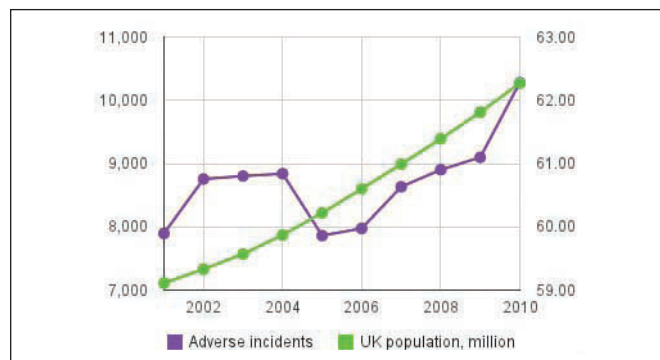

Figure 2: UK Adverse Incident and Population Trends
The chart shown in Figure 2 shows adverse incidents by year, based on MHRA (UK) Annual Adverse Incident Reports from 2007 (which includes data back to 2001, and 2010 (which includes data back to 2008). We see the upward trend of adverse incidents. As this could be due to an increase in medical devices in use, I plotted as well UK population, based on World Bank data. From the population data, we begin to see some correlation between the two increases.